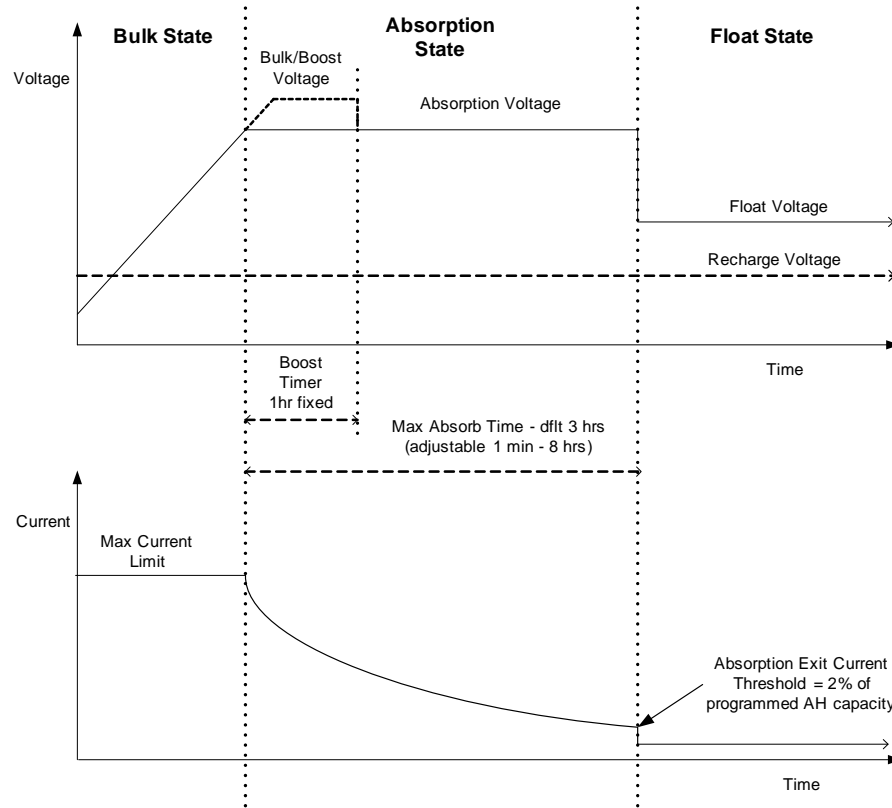
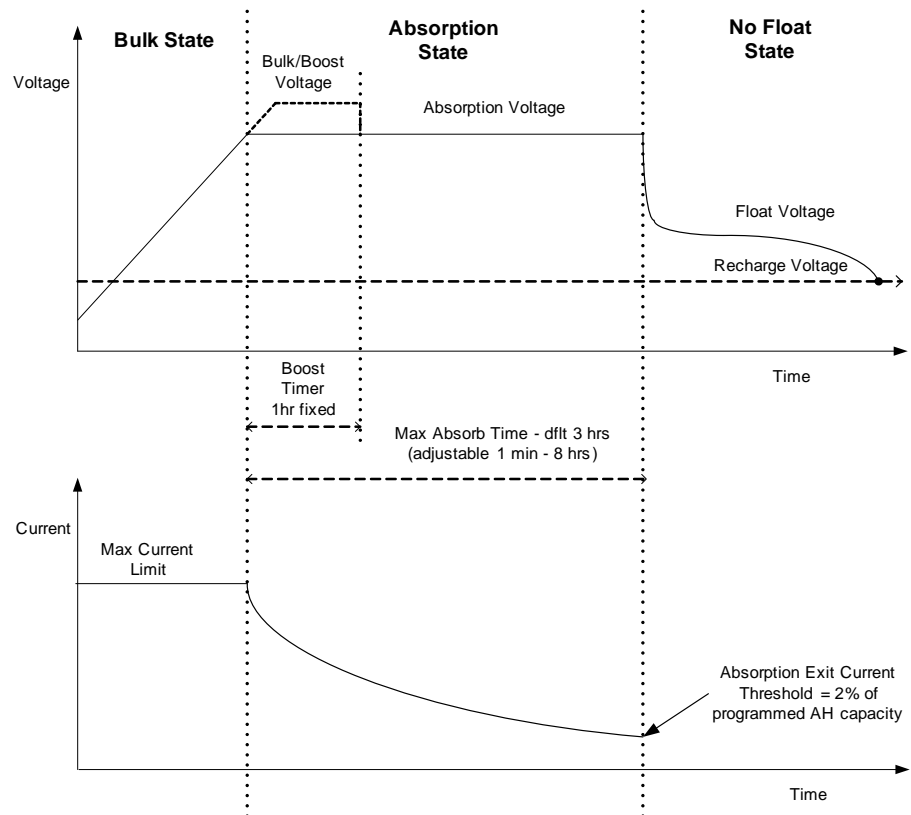

Figure 1-4 Three-stage Battery Charging Cycle^a
Figure 1-5 Two-Stage Battery Charging Cycle
The three-stage charging process results in more efficient charging compared to on-off relay type or constant voltage solid-state regulators. The final float stage reduces battery gassing, minimizes electrolyte loss, and ensures complete battery recharging. Battery voltage and current vary during the three-stage charging process as shown in Figure 1-4 on page 1–6.
a. An actual charging cycle for a PV-based system that is in use while it is being charged will likely differ from the cycle represented in Figure 1-4. This is because a PV system's output is limited by the amount of solar energy available, and also because DC loads will affect the charge current and the measured battery voltage.
Note: This note is applicable to Figure 1-4 and Figure 1-5.
The two-stage charging process includes the bulk and absorption stages, but uses a “No Float” stage instead of “Float.” The relationship between charging current and battery voltage during the two-stage charging process is shown in Figure 1-5.